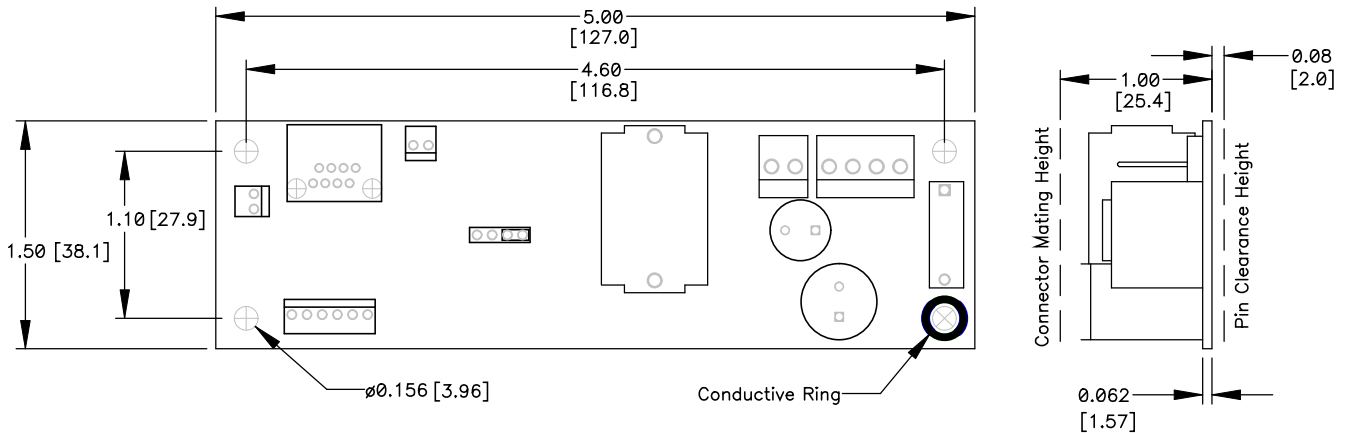

Fig. 2: Multi-SD Dimensions
- Dimensions 5.0”(127) x 1.5”(38.1) x 1.0”(25.4) L x W x H (See Fig. 2)
Using PCB support hardware in hardware pack H118-F, or equivalent, mount the unit on a flat surface using the four .156” (4.0mm) mounting holes. To minimize EMI, securely mount the unit on a grounded surface using a metal spacer and hardware at the conductive ring mounting (ref. fig. 2) **Note:** To meet UL safety recommendations without using an insulator, the unit must be mounted using spacers of a least 0.15” (3.8mm) from a conductive surface.